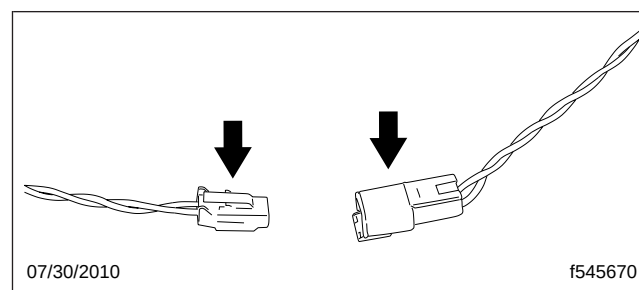

Fig. 2, Datalink Connectors
5. Make certain the wires are twisted as close to the entry point of the connector as possible. Plug the two connector halves together. See Fig. 2.